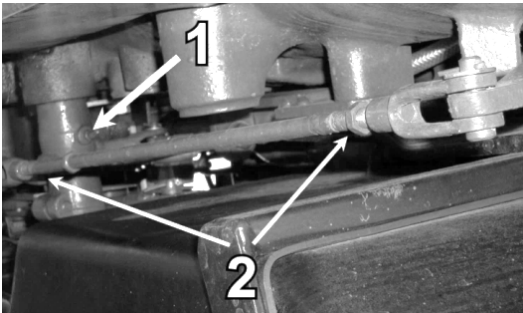

Fig. 5.8. Free travel adjustment of transmission clutch pedal.
- reverse pivot sleeves (Fig. 5.8.) – upper sleeve is accessible after opened tractor bonnet and lower sleeve is accessible after removed steering column LHS cover